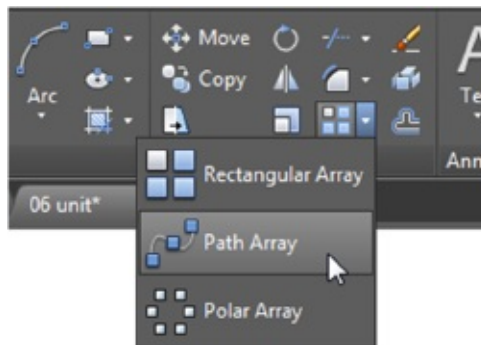

FIGURE 6.10 Select the Path Array tool from the Array flyout on the Home tab's Modify panel.
2. Click the Path Array tool in the Array flyout (see Figure 6.10), or type **ARRAYPATH** ↵.